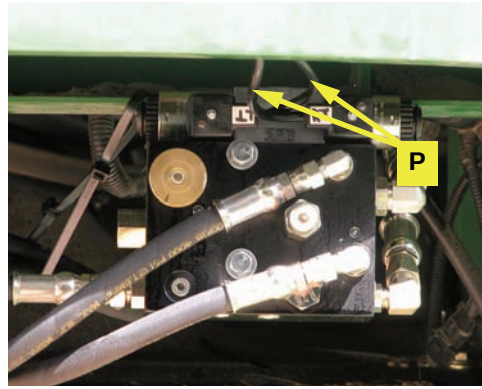

Figure 7a: Valve cable connected at steering block
- a. Install the hydraulic control cable **P** at the hydraulic steering block by attaching the two DIN connectors to the two coils (Figure 7a).